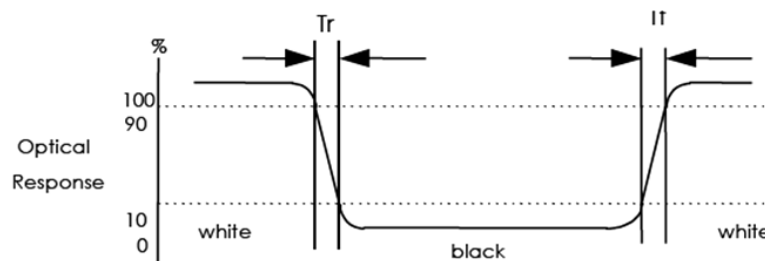

FIG. 2 Measuring method for Contrast ratio, surface luminance, Luminance uniformity, CIE (x, y) chromaticity
| Contrast Ratio             |       | Cr       | $\phi=0^\circ$     | 400 | 500   | -   | ---               | FIG 2. | 1  |
| Luminance Uniformity       |       | $\delta$ |                    | 70  | 75    | -   | %                 | FIG 2. | 3  |
| Surface Luminance          |       | Lv       |                    | -   | 400   | -   | cd/m 2 | FIG 2. | 2  |
| CIE (x, y)Chromaticity | Red   | x        | $\theta=0^\circ$   | -   | -     | -   | FIG 2.            |        | 5  |
**Note 1.** Contrast Ratio(CR) is defined mathematically as below, for more information see FIG 2.
**Note 2.** Surface luminance is the LCD surface from the surface with all pixels displaying white. For more information see FIG 2.
**Note 3.** The uniformity in surface luminance  $\delta$  WHITE is determined by measuring luminance at each test position 1 through 5, and then dividing the maximum luminance of 5 points luminance by minimum luminance of 5 points luminance. For more information see FIG 2.